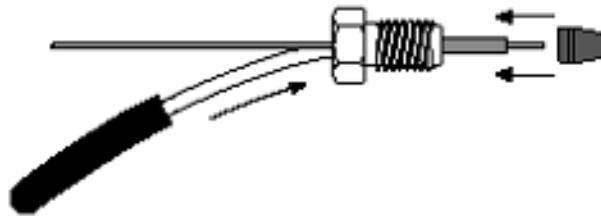

Figure 37 Add the ferrule
- 4 Slide the ferrule over the liner, using the installation tool to keep the liner all the way into the nut (Figure 37).